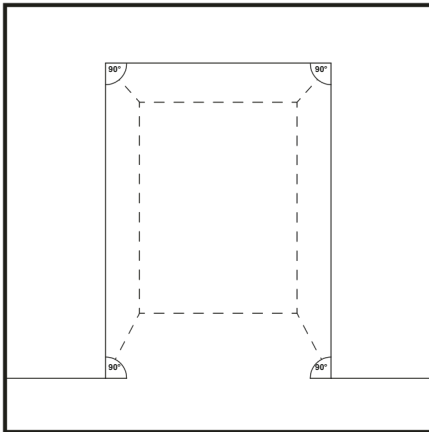

Figure 1
2. Before starting installation work, check that the opening in the glass wall is level and of the correct size, both vertically and horizontally. Ensure all corners of the opening are at a 90° angle. (Figure 1)